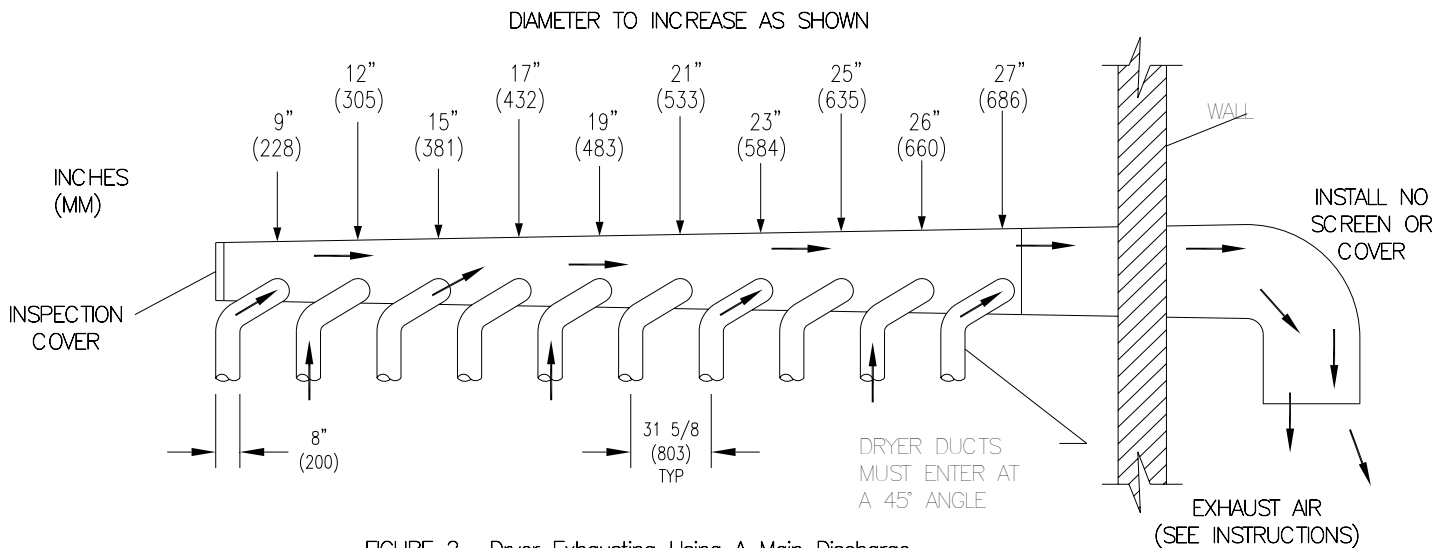

FIGURE 2— Dryer Exhausting Using A Main Discharge
6. EXHAUST INSTALLATION. (Refer to Figure 2 at the end of section 6.) Exhausting of the dryer(s) should be planned and constructed so that no air restrictions occur. Any restriction
Installation of several dryers, where a main discharge duct is necessary, will need the following considerations for installation (see Figure 2). Individual ducts from the dryers into the main discharge duct should be at a 45-degree angle in the direction of discharge airflow.
individual ducts from the dryers can enter at the sides or bottom of the main discharge duct. Figure 2 indicates the various round main duct diameters to use with the individual dryer ducts. The main duct can be rectangular or round, provided adequate airflow is maintained. For each individual dryer, the total exhausting (main discharge duct plus duct outlet from the dryer) should not exceed the equivalent of 20' (6 m) and two elbows. The diameter of the main discharge duct, at the last dryer, must be maintained to exhaust end.